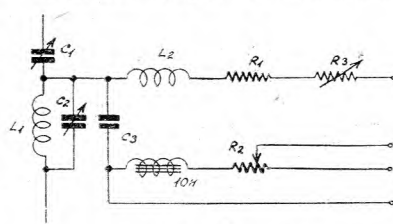

Fig. 5. An imaginary circuit "keyed" in accordance with standard practice.
Resistances are "keyed" as R1, R2, R3, etc., or the resistance represented is given in ohms or megohms alongside the symbol (Fig. 4c). In the case of tuning coils the letter L (remember, L is the recognised symbol for inductance, as C and R are the recognised symbols for capacity and resistance) is usually placed next to the symbol and the inductance data (turns, diameter, wire, etc.) given either in the text or in the caption. Frequently, however, the symbol L is used to indicate that an inductance such as an L.F. choke has an iron core. In such cases the inductance value is given in Henrys (H) or Millihenrys (mH) alongside the symbol, as shown in Fig. 5, which is a composite (and quite imaginary) circuit embodying the various symbols so far described.